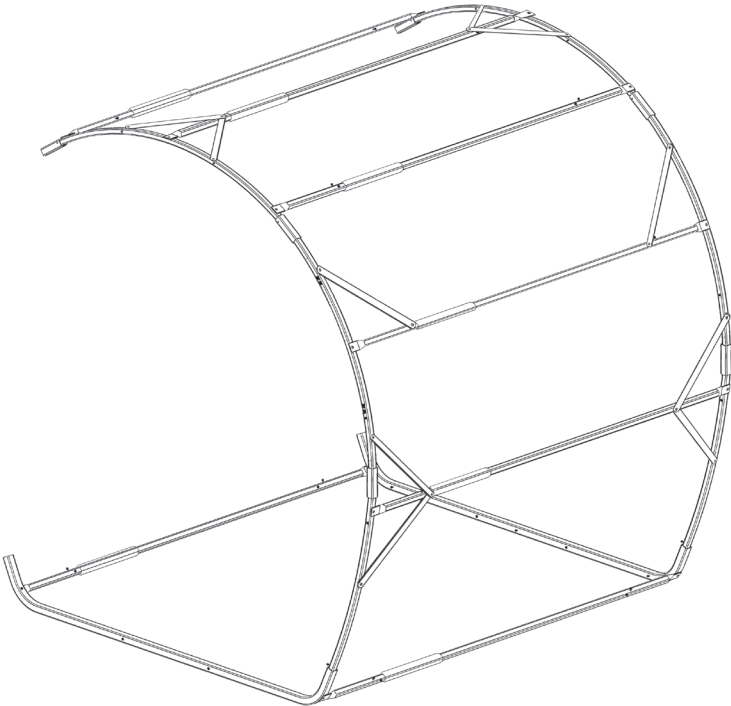

Figure 20.1
STEP 12: Install Section 3 that was created in Step 11, into Section 2 that was created in Step 9, resulting in the frame illustrated in Figure 20.1.